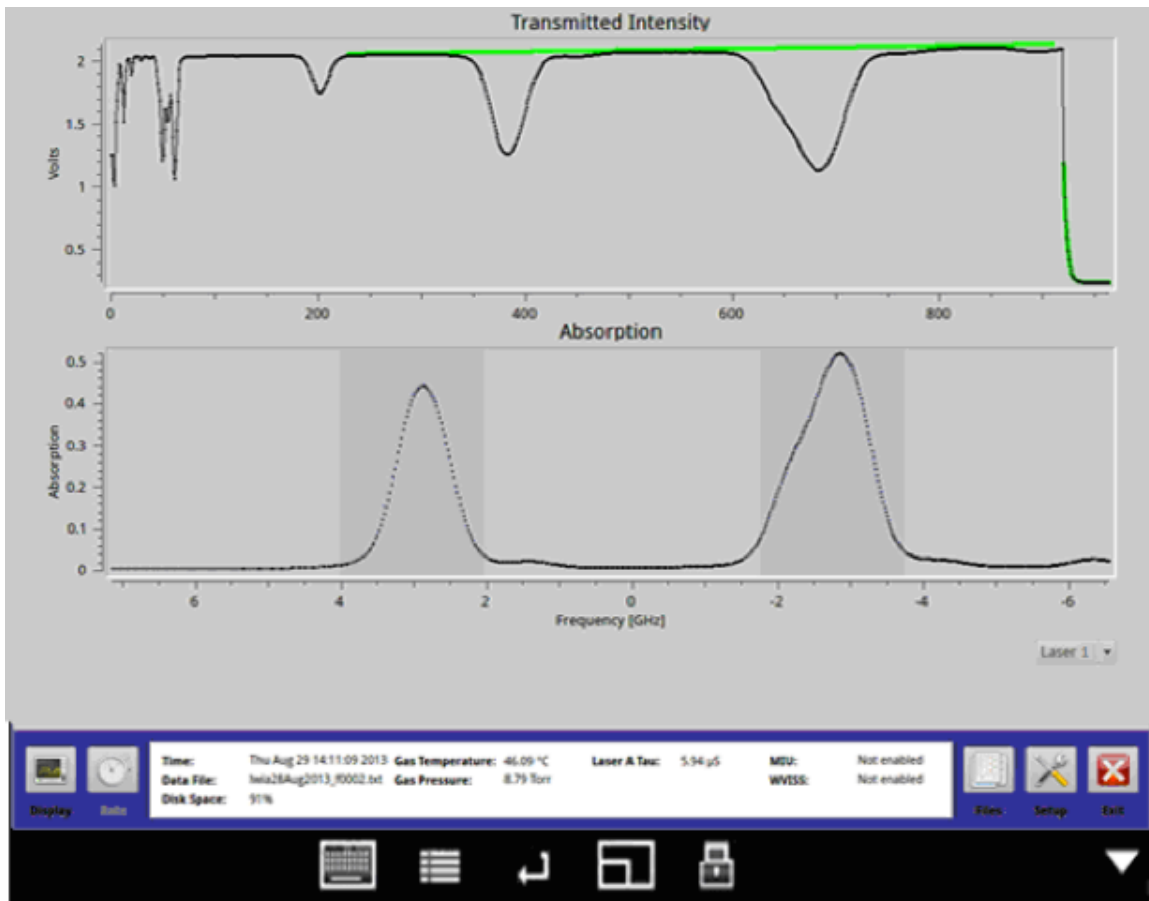

Figure 68: Analyzer Software Interface Screen (Size Adjustment for iOS Devices)
15. To connect the iOS device to the analyzer, tap the **IP Config** you set up. The analyzer software will display on the device. (Figure 68) The screen size is adjustable to fit the screen of the device.